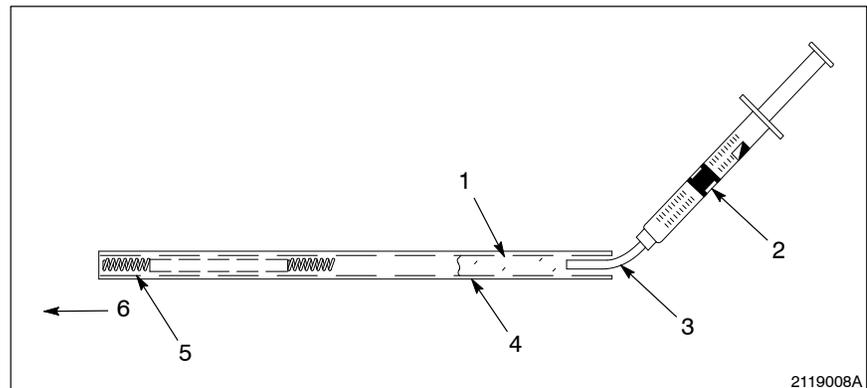

Fig. 7-1 Applying the Dielectric Grease to the AN-8 Plus Gun
2. See Figure 7-1. Clean as much dielectric grease (1) from the insulating tube (4) as possible. Use a round brush to clean the grease from the tube.
3. Warm a syringe (2) of dielectric grease to about 37–43 °C (98–110 °F) by holding it in your hands or running the syringe under warm water.
4. Insert the flexible tube (3) on the end of the syringe into the electrostatic cable port in the cable adapter.
**NOTE:** The end of the cable acts as a piston in the insulating tube, pushing the dielectric grease around the resistor and spring (5), and around the exterior of the tube. This totally covers the high-voltage contact points inside the gun with dielectric grease.